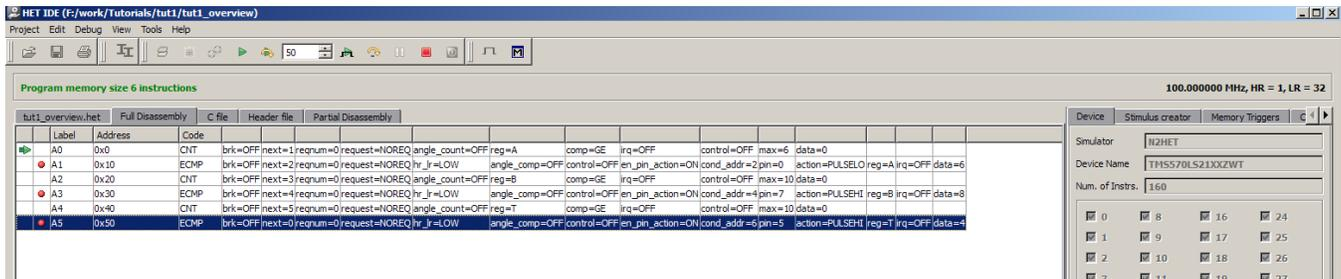

Figure 4. Breakpoints
- (b) Confirm that your screen looks like Figure 4.